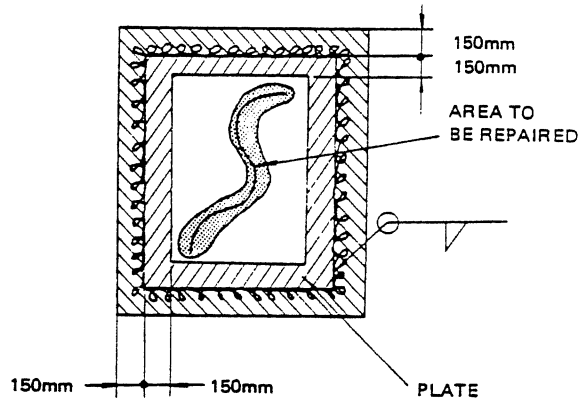

Figure 4-7. Area of Preheating, Interlayer Heating and Post-heating.
- (1) Repair the crack according to paragraph 4-1.
- (2) Smooth out the reinforcement bead by grinding.
- (3) Preheat the area of 150mm ranges inside and outside of each side of the patch as shown in Figure 4-7 to 250 to 300°C, and start welding.
- (4) Continue welding while applying interlayer heating to the shaded area in Figure 4-7.